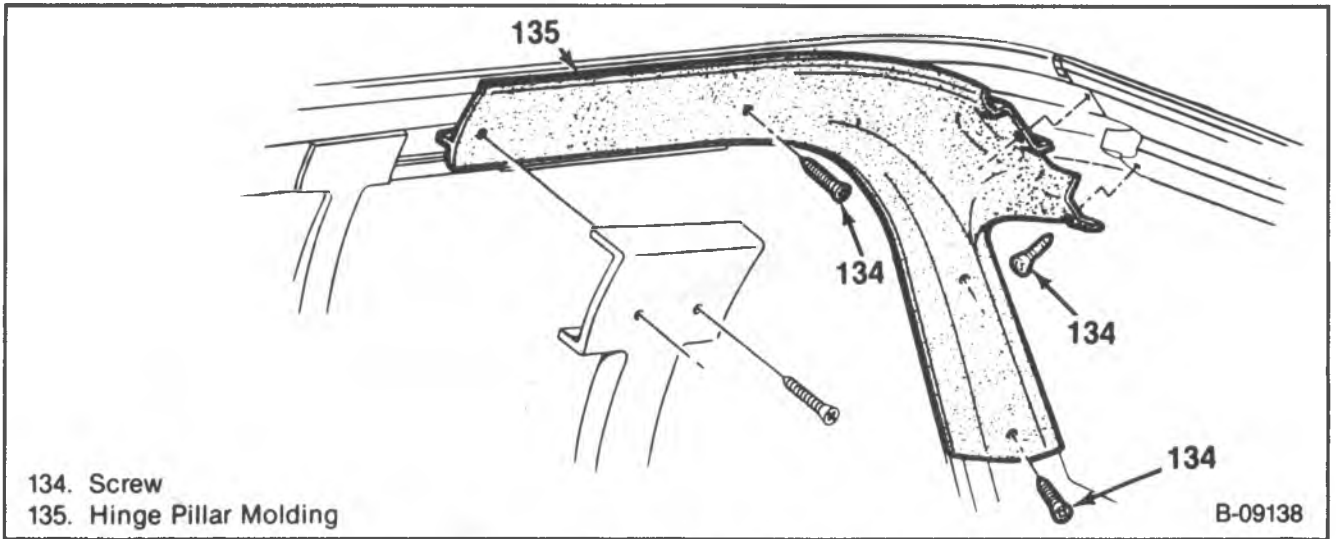

Figure 46 — Hinge Pillar Molding
2. Front door hinge pillar molding screws and the front door hinge pillar molding (figure 46).
13. Front door hinge pillar molding and screws (figure 46).